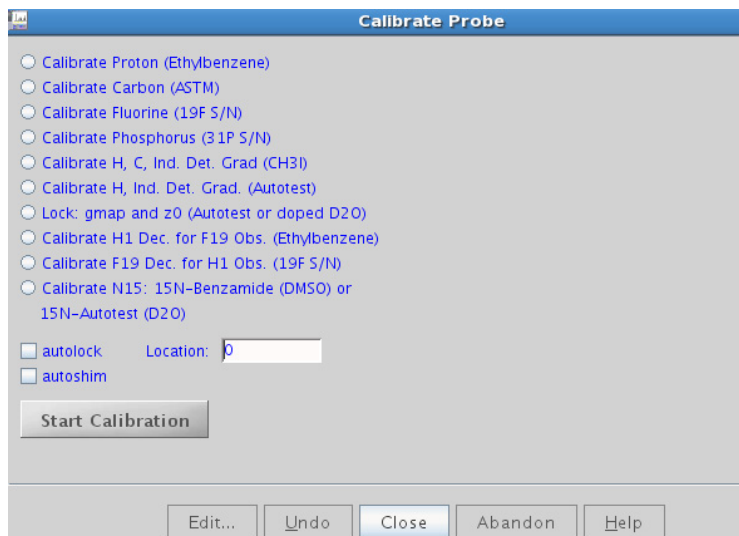

Figure 12 Calibrate probe
- 2 Follow the prompts, enter any required values, select options, and proceed according to the instructions presented in the Calibrate probe window; see Figure 12 for an example of the prompts presented.